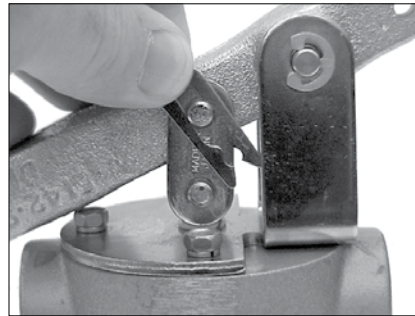

Figure 17b
4. Remove the retaining clip from the connection link. A screwdriver may be needed to pry the retaining clip off (Figure 17b).